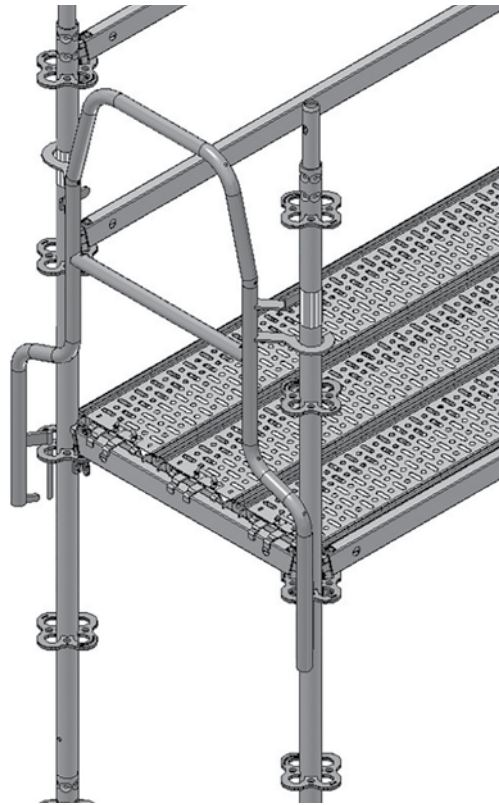

Fig. A7.01
1. Installation of the End Guardrail in Advance UPA-2 takes place from a secure position for the next scaffolding bay. (Fig. A7.01)